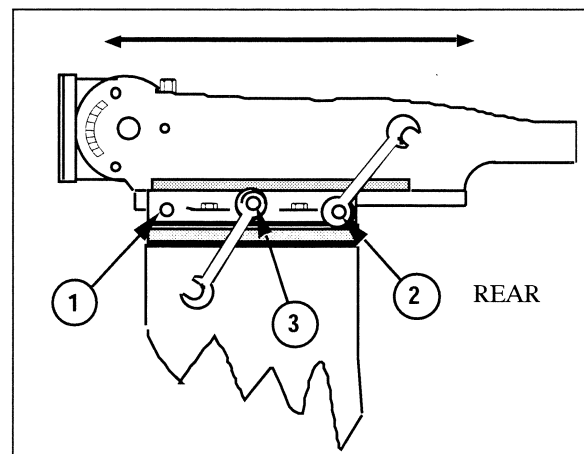

Figure 1-13: Ram Slide Adjustment
- a) Use Bridgeport wrench to loosen the 4 bolts shown in Figure 1-13.
As shown in Figure 1-13, the Ram portion of the EZTRAK[®] can be slid front to back by loosening several bolts as follows: